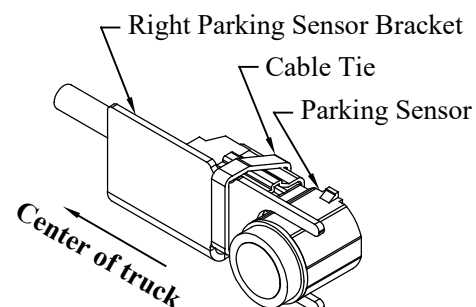

Figure 4: Orientation of sensor in bracket.
8. **Position** sensors into brackets and fix in position using a cable tie (Figure 4). Sensor wires face towards the center of the truck.